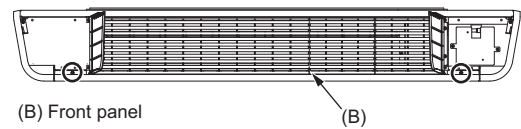

Fig.2
2. Unscrew the two screws holding the front panel, and remove the right and left covers. (Fig.2)